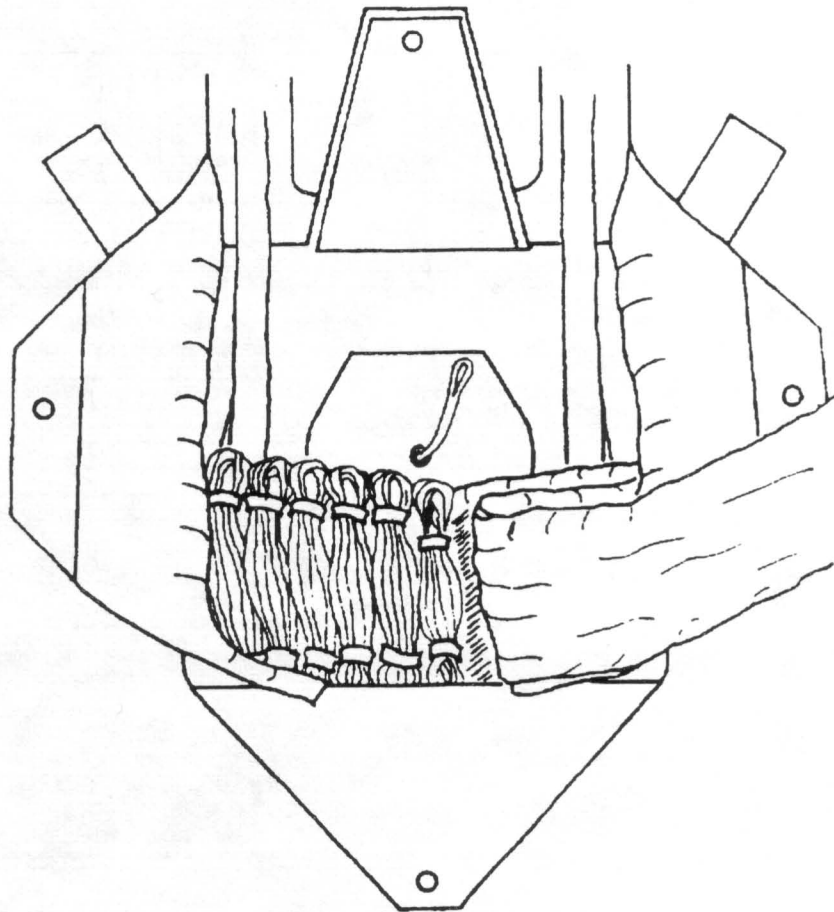

FIG. 4
- 5) Place the skirt (or diaper) of the canopy in the lower left corner of the reserve container. If the diaper is not as wide as the container, make a short fold in the right side to equalize the bulk (FIG. 4).